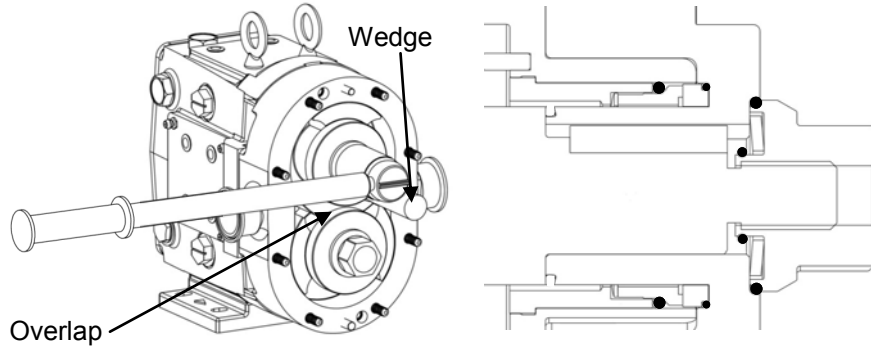

Figure 10: Rotor Assembly
7) Thread the nut onto the shaft and tightening it down using the appropriate wrench and a non-metallic wedge to hold the rotor in place (Figure 10). Torque the rotor nuts down using 163 N-m (ZP3 30, See ZP2 manual for correct values) of force. Orientate the rotors as seen in Figure 10 and **Always** tighten the first rotor positioned under the overlap of the opposing rotor. Repeat with the second rotor in the same orientation.